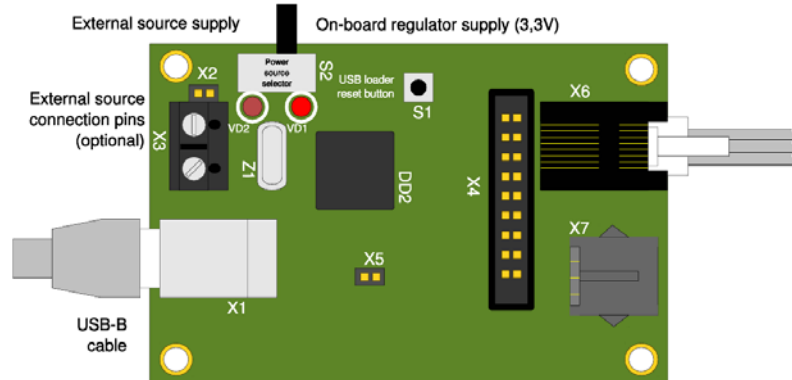

Figure 2.1: Schematic representation of USB loader
- turn switch S2 (Figure 2.1) into “On-board regulator supply (3.3V)” position